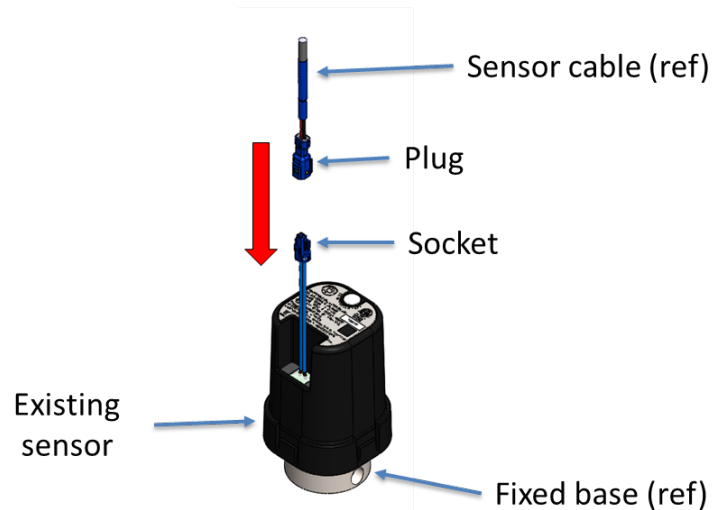

Figure 9, Connector engagement
6. Connect the sensor cable to the sensor housing by pressing the connector straight in as shown refer to Figure 9. The plug and socket connectors are keyed and will only connect in the correct orientation. **DO NOT FORCE THE PLUG AND SOCKET TOGETHER.**